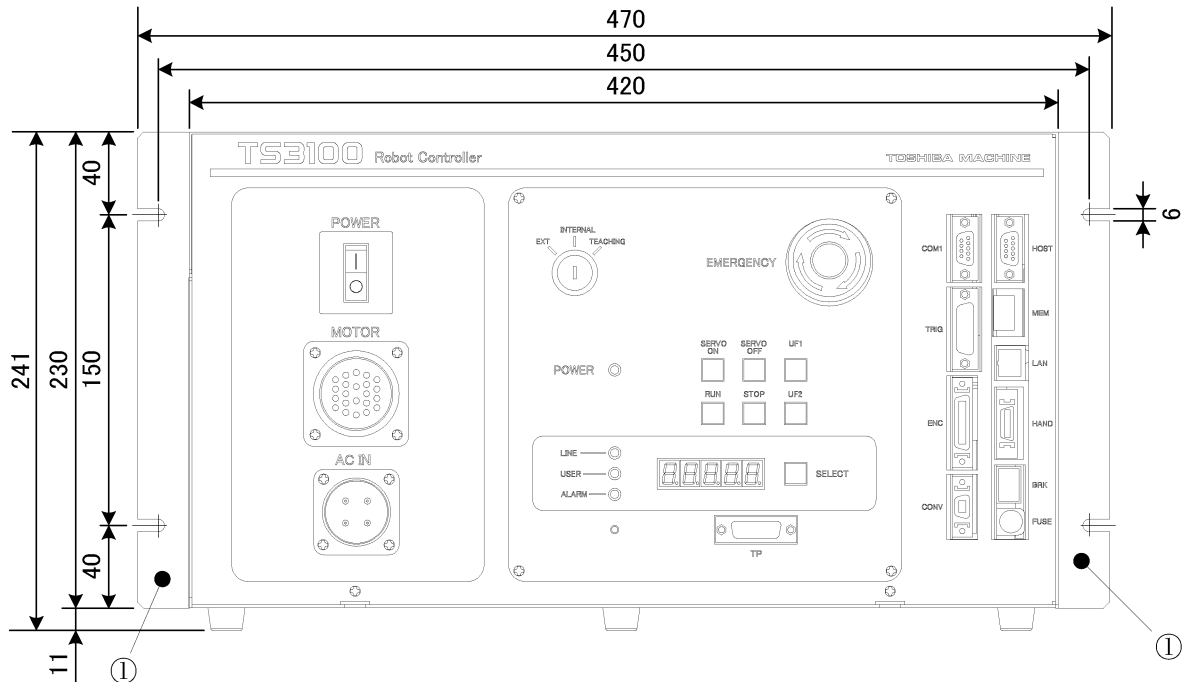

Fig. 3.11 Screw hole dimensions for securing controller
When mounting the robot controller in a rack, set the side brackets using the screw holes provided on both ends of the front panel, and secure the controller to the rack. The side brackets ① in Fig. 3.11 are optional.